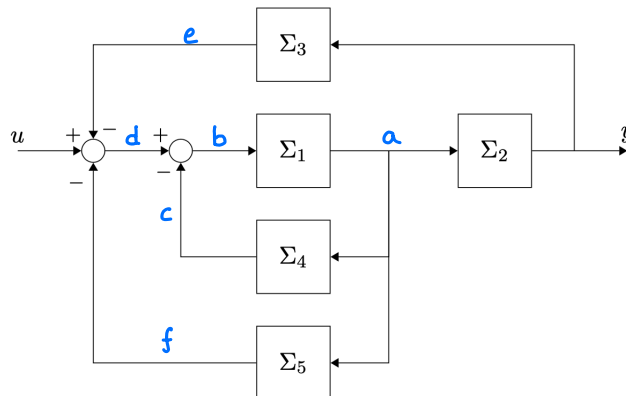

Figure 4: Interconnected system.
**Problem:** Consider the interconnected system shown in Figure 4. You can assume that the input-output relation for each system  $\Sigma_i$  is given by  $y_i = \Sigma_i \cdot u_i$ , that is, each of the systems  $\Sigma_i$  represents a simple scalar gain.
Q4 (1.5 Points) Derive the transfer function  $\Sigma$  from  $u$  to  $y$  for the interconnected system shown in Figure 4. Simplify the result as much as possible.